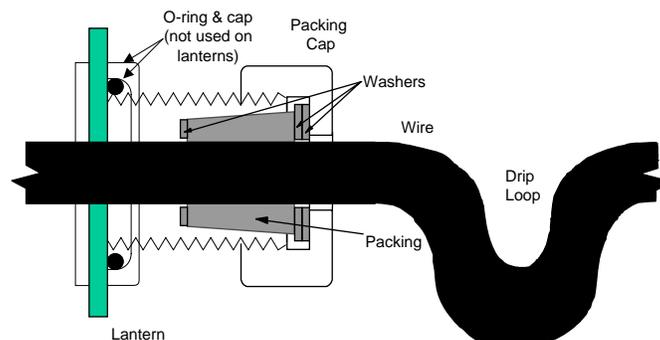
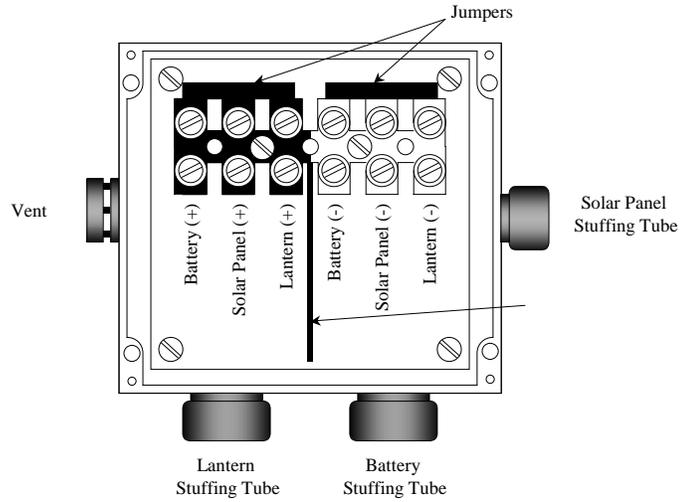

Figure 5.
Figure 6.
- Remove the lantern stuffing tube assembly from the bottom of the LED Lantern Junction Box (see Figure 6).
The LED Lantern Junction Box is used to gather the inputs from the solar panel, battery and LED lantern. It may be installed next to the lantern, or vertically on a radar reflector. Place the heavy paper template in the desired location on the buoy. Mark the four holes to be drilled on the radar reflector with a center punch. Be sure the area behind the radar reflector has room to install hardware (no cross ribs, vertical reflectors, etc.) Drill four 9/32" diameter holes through the reflector. Install the junction box using the provided hardware. Route the wires through the stuffing tubes, as shown in Figure 5. Tie the cables to adjacent support structures and cut off the excess in the box. Strip the ends of the wire and insert into the Euro type terminal strips and secure with a 3/16" flat blade screwdriver. The terminals are labeled and color coded black for positive and white for negative (see Figure 6). A barrier terminal strip is provided if multiple loads and/or panels are used on the aid (the Euro strip only accepts one wire). Place the desiccant bag inside the box, align cover and tighten evenly.